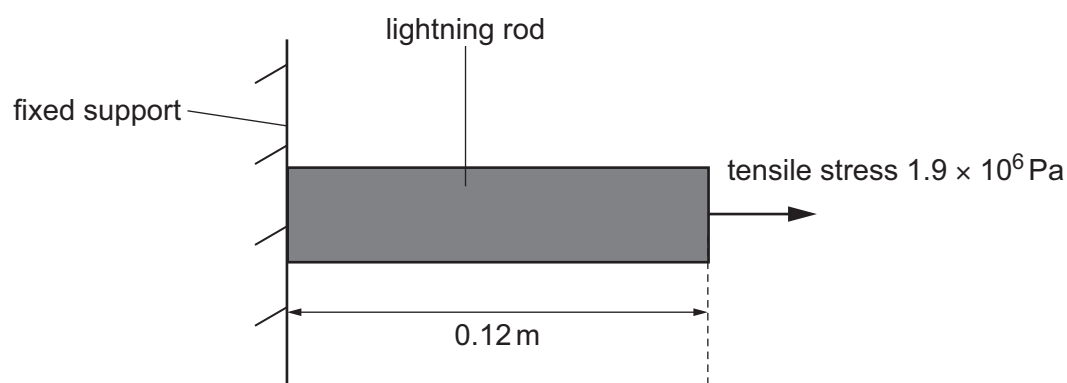

Fig. 3.2 (not to scale)
- (d) A section of the lightning rod of length 0.12 m is removed for testing. A tensile stress of $1.9 \times 10^6 \text{ Pa}$ is applied, as shown in Fig. 3.2.